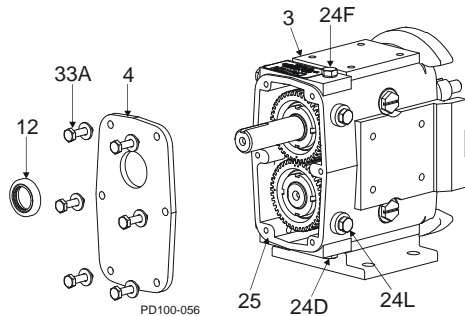
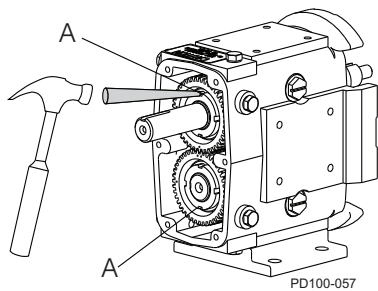

Figure 68 - Remove Gear Case Cover
Figure 69 - Straighten Lock Tab on Lock Washers
1. Remove the oil drain plug (Figure 68, item 24D); drain the oil.
2. Remove the cap screws from the gear case (Figure 68, item 33A).
3. Pull the cover (item 4) off the shaft extension. If the cover sticks, use a soft hammer to loosen it.
4. Remove the silicone sealant (item 25) from the gear case and cover.
5. Using an arbor press, remove the oil seal (item 12) from the cover. Discard the used oil seal.
6. Straighten the tab on the lock washers (Figure 69, item A).